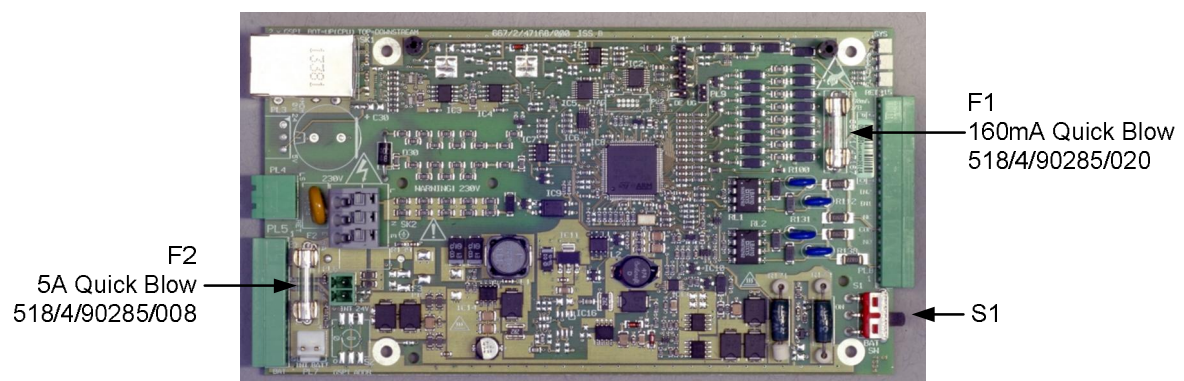

Figure 21 – Power Supply Board
4. The relevant fuse can now be replaced – refer to Figure 21.